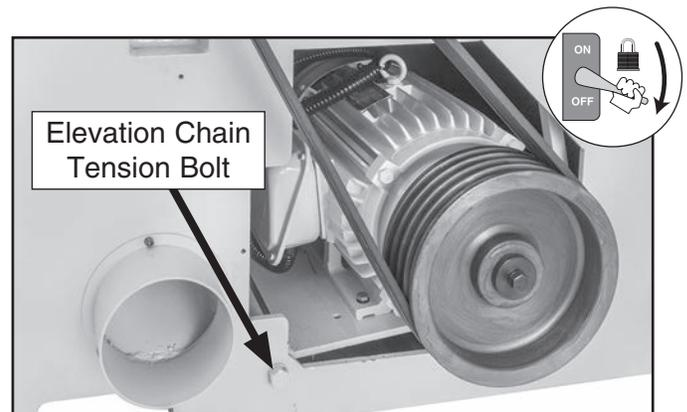

Figure 130. Location of elevation chain tension bolt.
- Remove lower cutterhead belt cover, and then loosen hex bolt next to lower cutterhead motor pulley (see **Figure 130**).